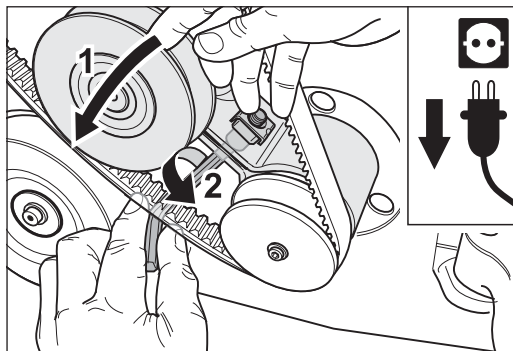

Fig. 66 By turning the tensioner, tighten the smaller V-belt (1) and carefully tighten the clamping screw (2).
- 11 Turn the belt tensioner counterclockwise to tension the fan V-belt (Fig. 66, 1). Keep the belt tensioner in position and tighten the clamping screw at the belt tensioner carefully at the same time (Fig. 66, 2).